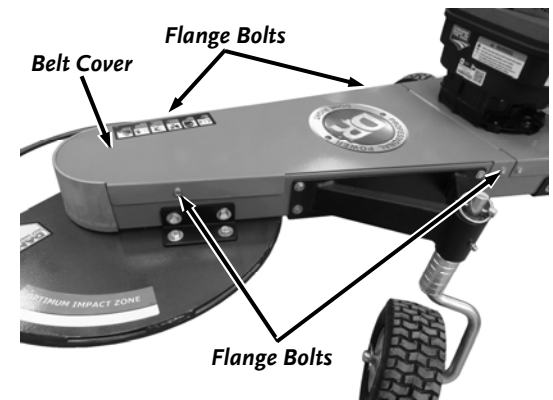

Figure 28
1. Remove the four Flange Bolts from the Belt Cover using a 3/8" Wrench (**Figure 28**).
7. Position the Belt Guard and secure the Guard with the four Flange Bolts using a 3/8" Wrench (**Figure 28**).